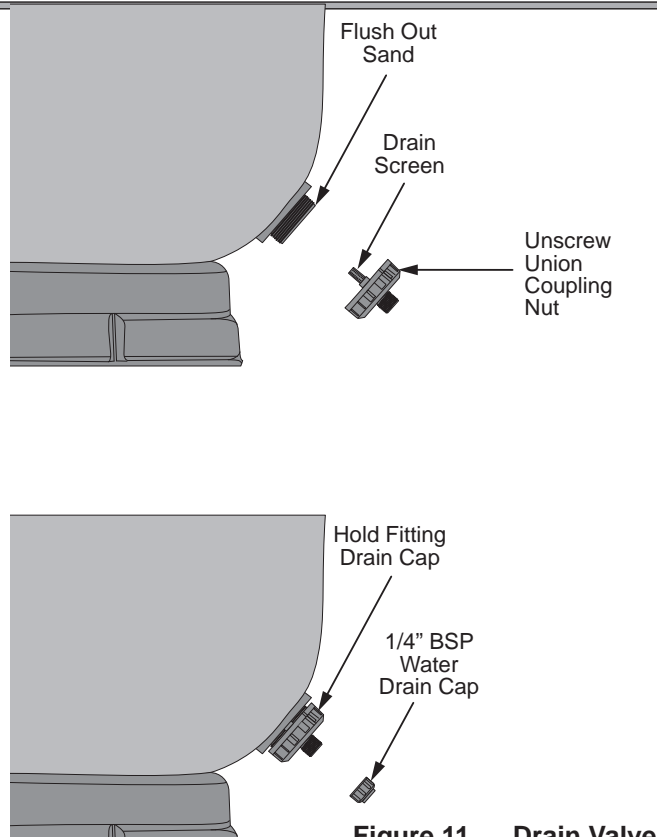

Figure 11. Drain Valve
Any additional piping installed at the water drain must be removable in order to facilitate the further removal of drain components. Allow sufficient space for the flushing of sand from the filter. See **Figure 11.**
- The larger tank drain is a universal union fitting. Sand removal is easiest without further restriction at this fitting. However, if a short piece of piping is desired to direct the sand being flushed away from the filter base, a universal tailpiece and union nut can be used. See **Figure 11**.